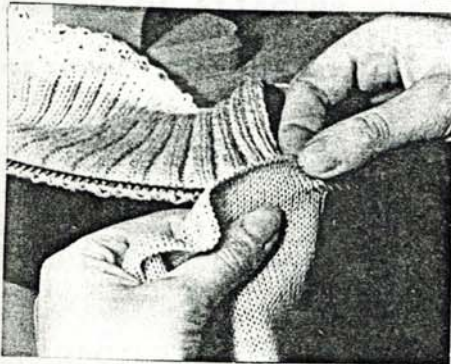

Fig 90
- 2) Insertion of the cut knit piece to which the trimming is to be linked. Fig 90 and 91.